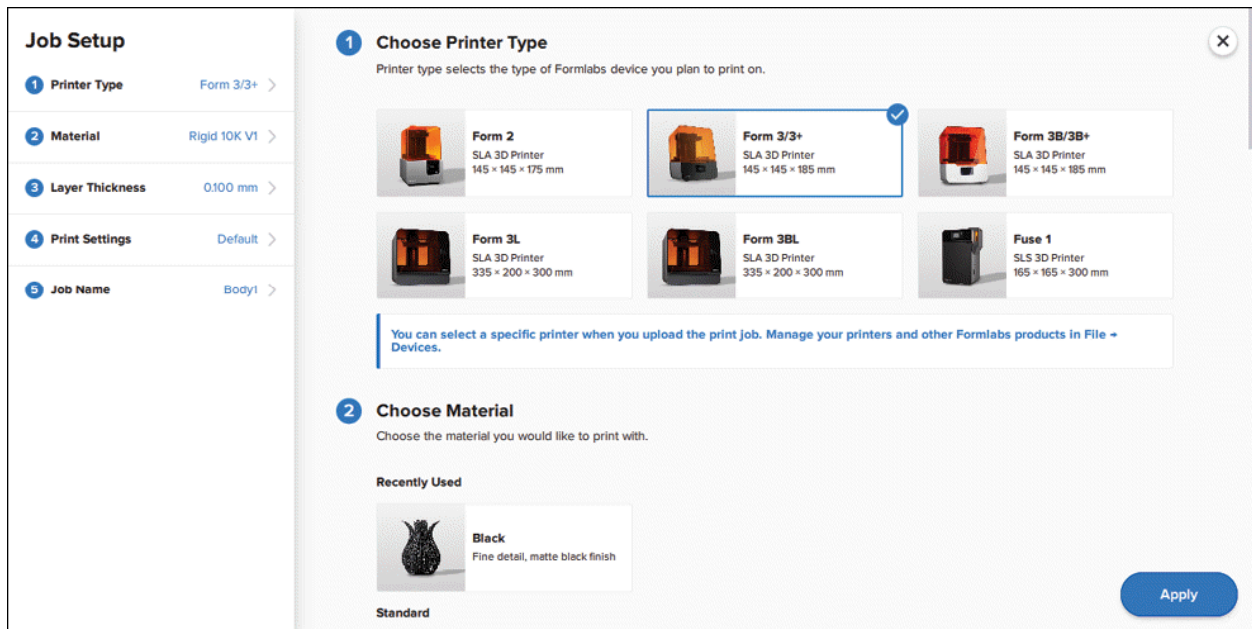

Figure-54. Job Setup window
- Click on the **Edit Job Setup** button (**Printer Type** selection box) from the **JOB INFO** area at the right in the dialog box. The **Job Setup** window will be displayed; refer to Figure-54.